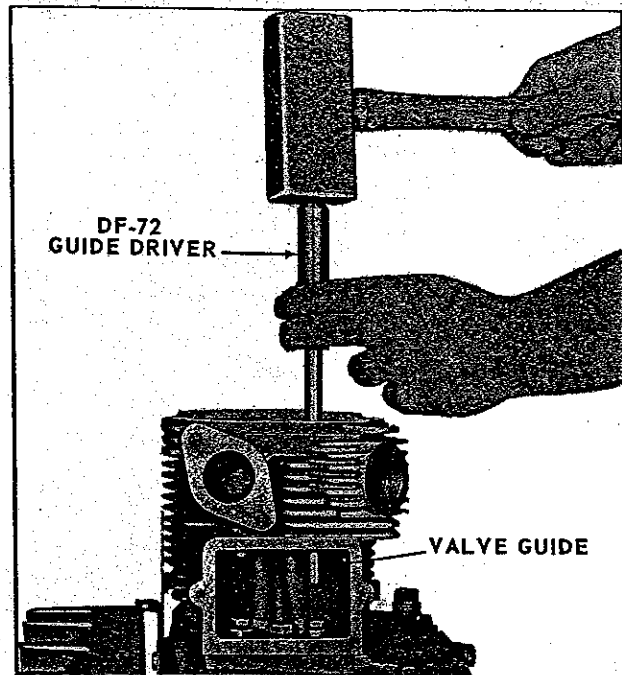

Fig. 28 293045C
*Before grinding valves*, inspect valve guides for possible replacement. Refer to *Fig. 28* for proper
#### VALVE GUIDES (Fig. 28)
When valve stem clearance becomes excessive, the valve guides should be driven out, as illustrated in *Fig. 28*, and new guides pressed in place. Use Wisconsin Motor *DF-72* valve guide driver. In reassembly, press guides into valve ports using the same driver tool. Refer to *Fig. 27* for clearance specifications and proper assembly.